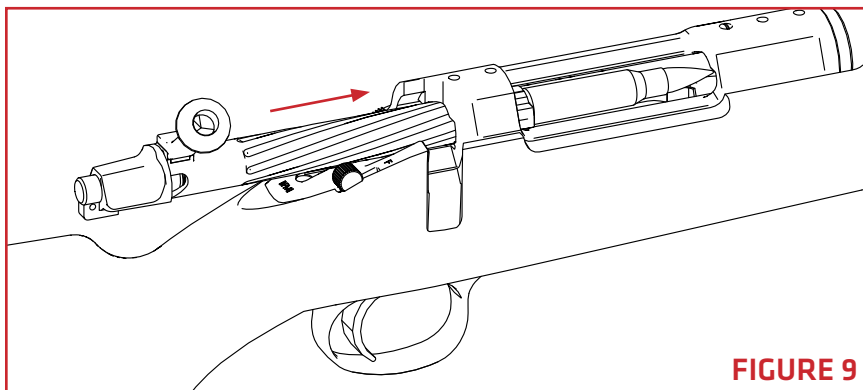

FIGURE 9
2. If the magazine is loaded with additional cartridges, slowly push the bolt forward until the cartridge is released from the magazine (**FIGURE 9**). Do not fully chamber the cartridge to be unloaded from the rifle.